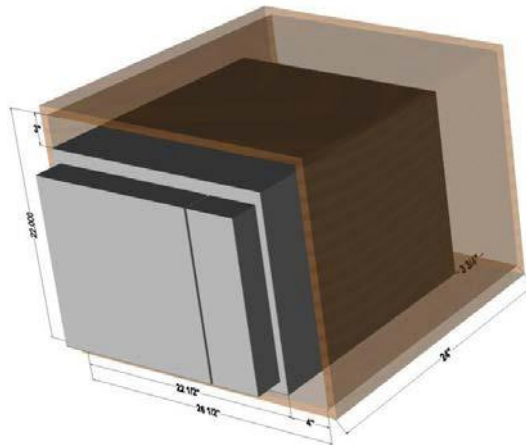

Fig. 1, Alcove installation with no pullout shelf:
- See Fig. 1
- If a closed back, recommend clearance the same as no pullout installation as shown in Fig. 1 above. Simplifies access for filter and switch; still need airflow ventilation